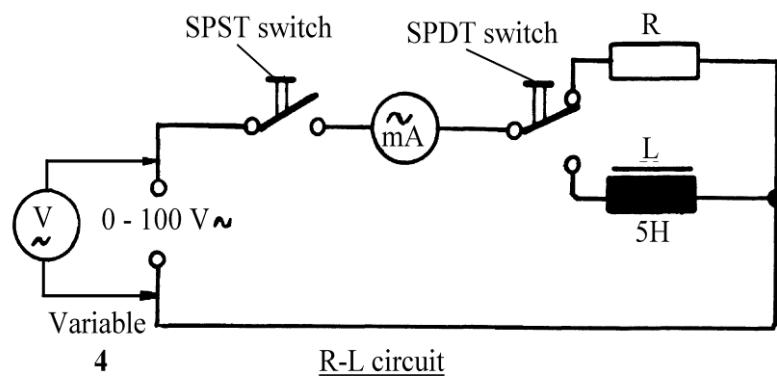

Figure 4
- Your circuit should now be the same as the circuit shown in Fig. 4